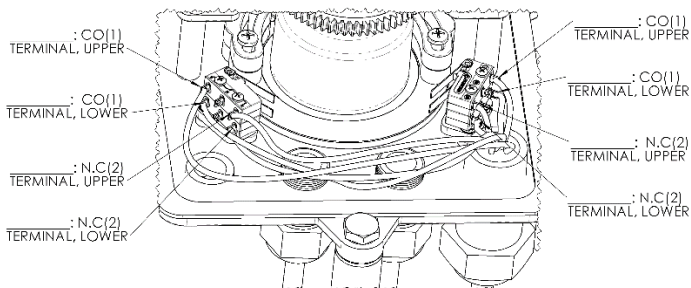

Figure 18: Wiring schematic for customer fill out, four switch module
1. Note connections of all wires going to the old microswitches prior to disconnecting by filling in the colors of wires in Figure 18. On the old microswitch, Kobelt PN 6001-0104, the terminals are labelled 1 and 2, and correspond to terminals 1 and 2 on the new microswitches.